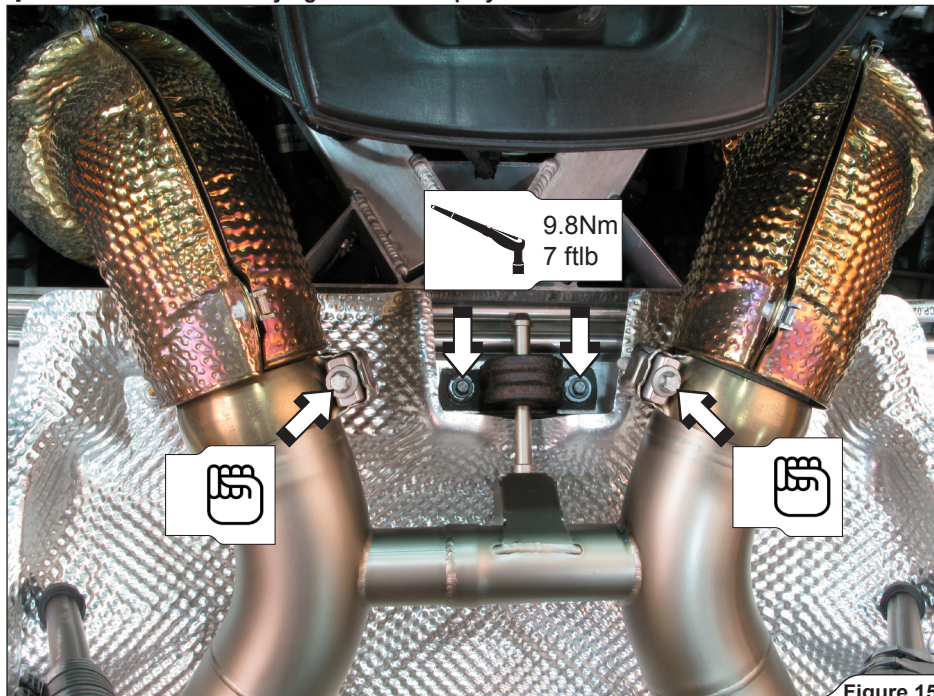

Figure 15
- Carefully insert the muffler, slide the clamps over the joints and tighten the front rubber bracket onto the chassis (**Figure 15**).